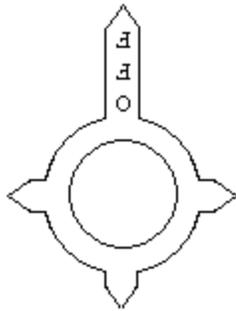
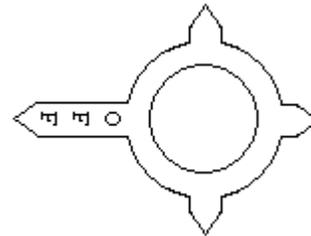

Figure II-3. Luer Lock position to OPEN that particular line and keep the main line open.
Figure II-4. Luer Lock position to OPEN that particular line but close all “downstream” lines.
6. OPEN the Luer Locks in order from Line 1 to 20 on the manifold (only where a line is connected to a needle and Exetainer vial) by turning the “OFF” tab directly up (Figure II-3). If it is on an angle, no gas will pass through and Exetainers will not evacuate/flush.
- A particular line is OPEN when the Luer Lock “OFF” tab is pointed up (Figure II-3) or to the left (Figure II-4).